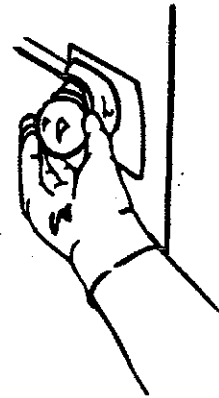

Figure 92
- d. Wear protective gloves to remove defective bulb and replace with functioning bulb. See Figure 92.